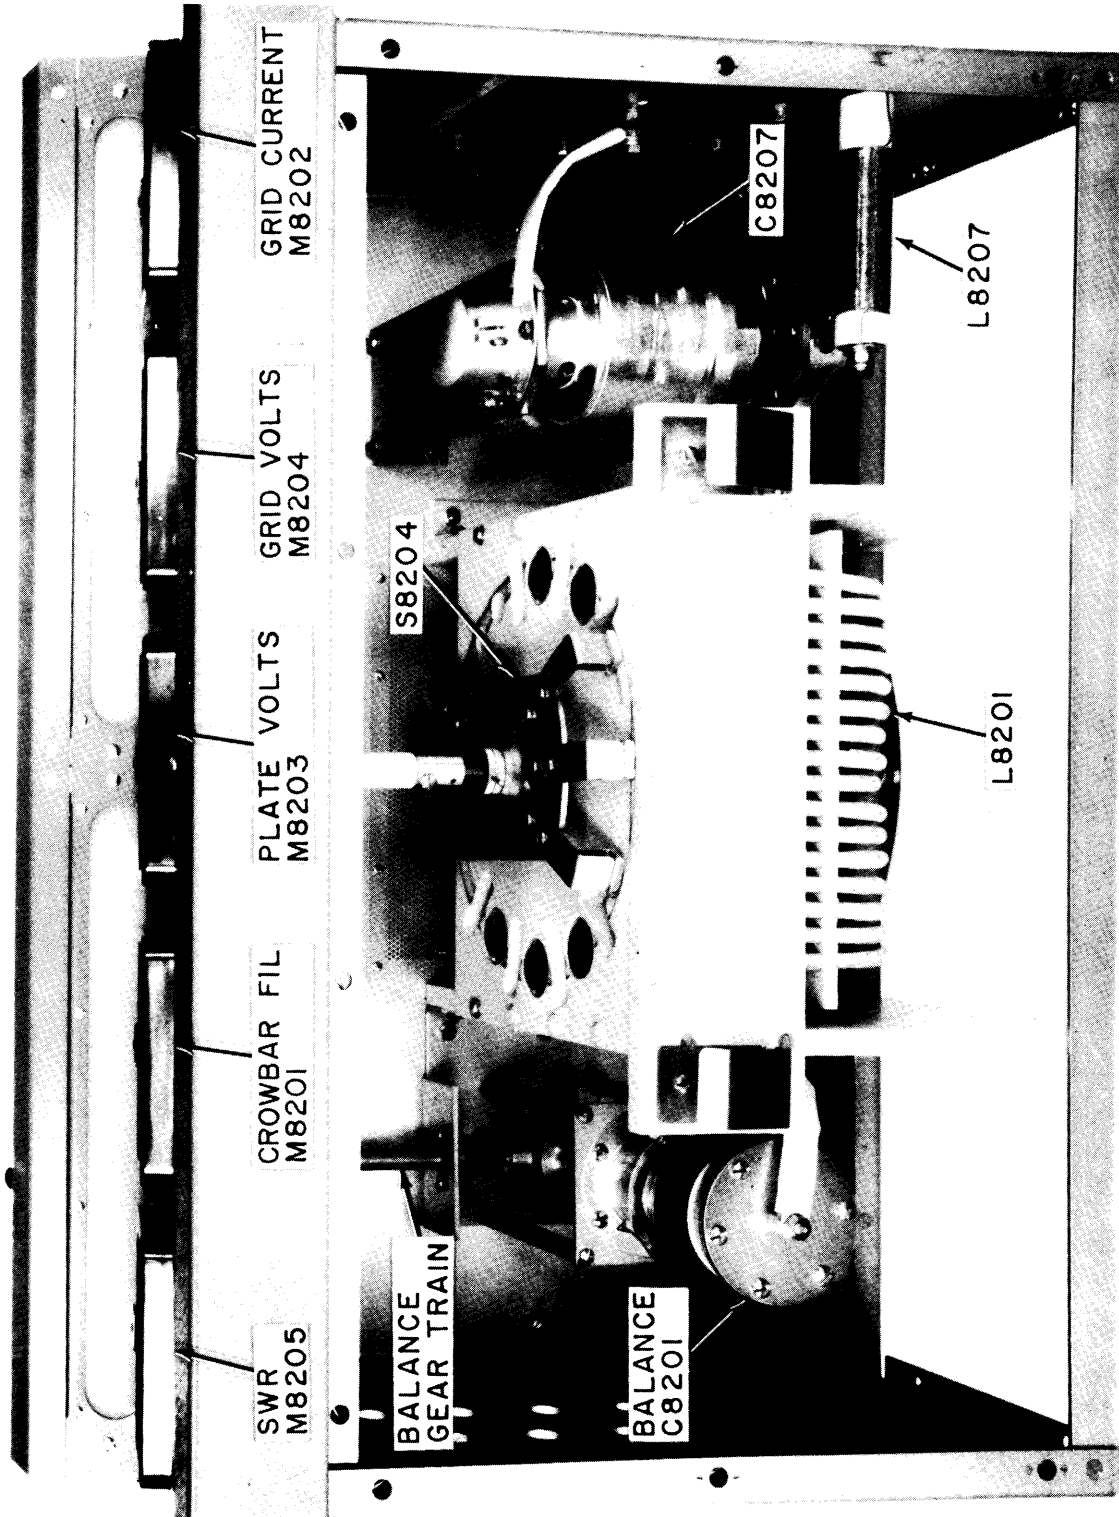

Figure 4-5-1. Top View with Callouts, Antenna Tuning Unit and Meter Panel Drawer, GPT-40K
b. LOCATION DATA. - Figure 4-5-1 shows top view, with callouts, of the antenna tuning unit and meter panel drawer.